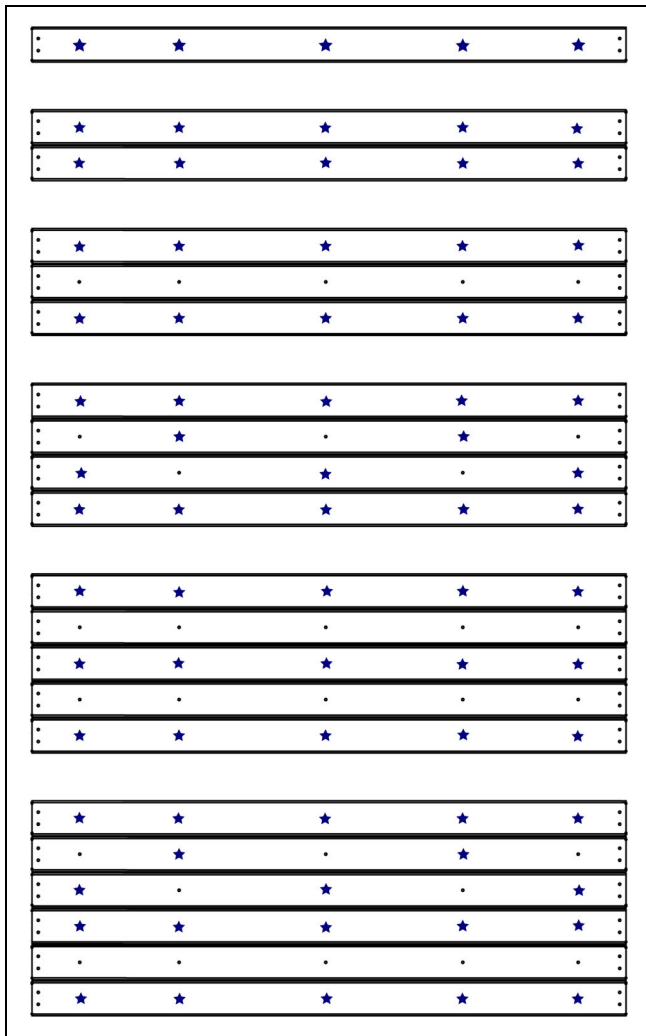
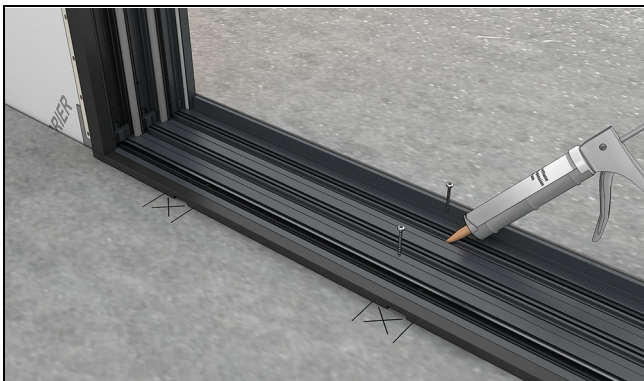

Figure 53 Place fasteners through Head Jamb, Sill, and Jamb at locations indicated by the star shapes above.
Figure 66
4. Use the chart below to determine proper fastener placement depending on configuration (number of tracks). See Figure 53.
6. Install the remaining screws into the sill. (not provided on performance or flush sills). Fasten HP sills at 10" (254) on center. All other sills, fasten at 20" (508). See Figure 66. See Figure 53 previously for screw placement.